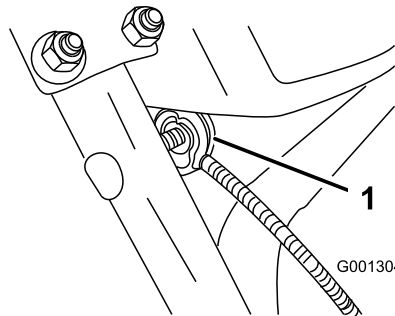

Figure 7
3. Remove the nut and washer from the handle, attach the cable clamp on the cable to the handle, install the washer and the nut, and tighten the nut by hand (Figure 7).